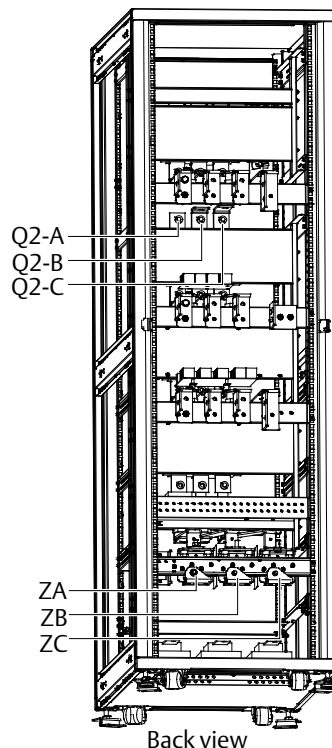

Figure 8-1 Positions of copper bars
4. Remove the cables W60, W61 and W62 between the copper bars Q2-A, Q2-B, Q2-C and the copper bars ZA, ZB, ZC. Retain the screws and nuts. The positions of the copper bars are shown in Figure 8-1.